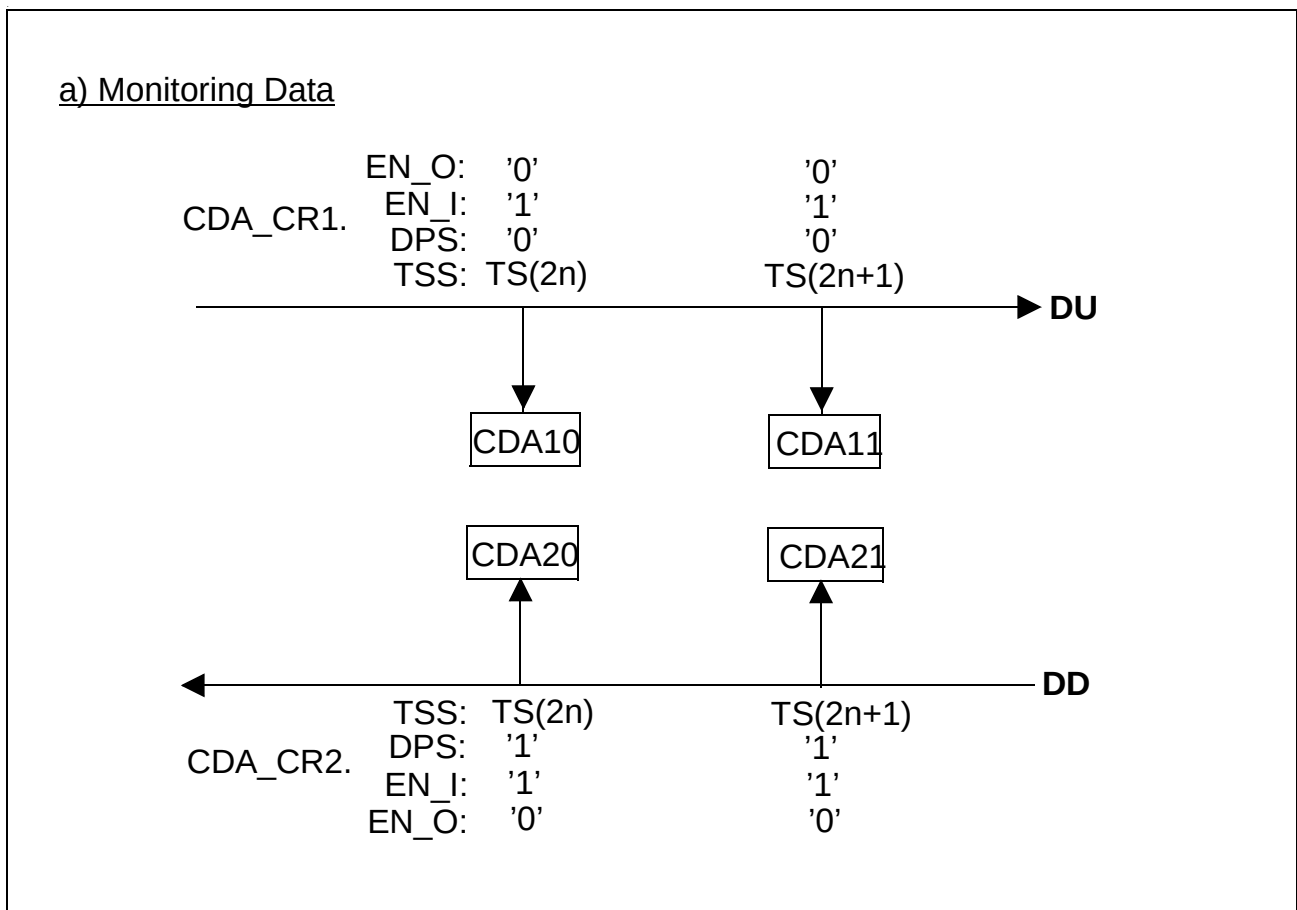

**Figure 53** Example for Monitoring Data
**Figure 53** gives an example for monitoring of two IOM-2 time slots each on DU or DD simultaneously. For monitoring on DU and/or DD the channel registers with even numbers (CDA10, CDA20) are assigned to time slots with even numbers TS(2n) and the channel registers with odd numbers (CDA11, CDA21) are assigned to time slots with odd numbers TS(2n+1). The user has to take care of this restriction by programming the appropriate time slots..